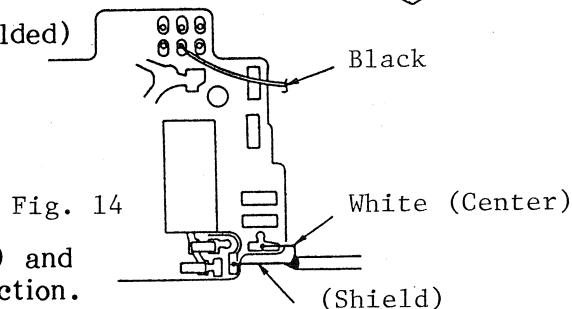

Fig. 14
- 5.1 Unsolder the two leads (one shielded) (Fig. 14).